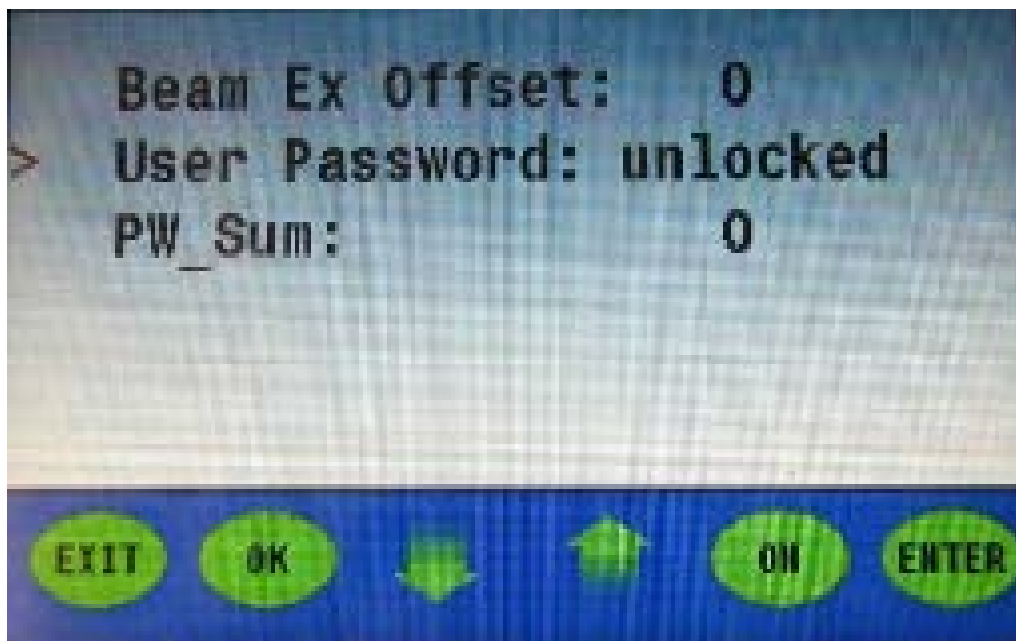

Figure 14
5. Press the **up arrow** to set the last digit for the password. Next, press the **enter button** to input the new password. Now, return to “**User Password: Unlocked**” on the main screen menu list (**figure 14**).